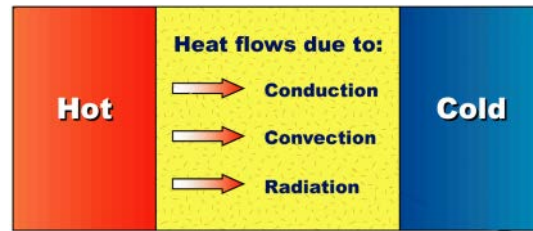

Fig. 1: The heat flow due to heat and cold
**How insulation works:** The heat flow due to hot and cold is shown in Fig. 1.